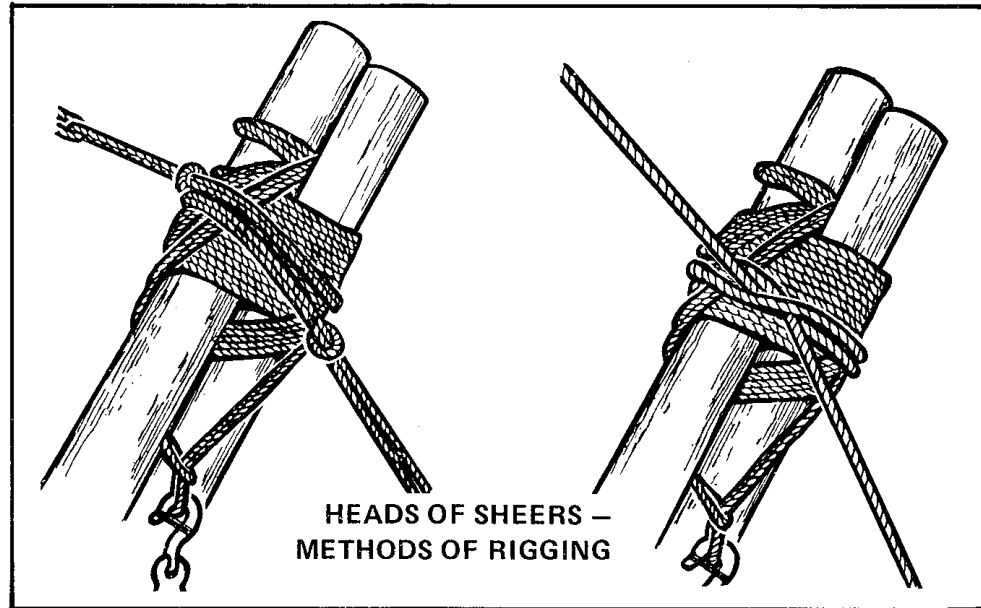

Figure 4-75 Heads of Sheers — Methods of Rigging
load (Figure 4-75). The upper block of the purchase is hooked to this strop (as shown), and the hook is securely moused.
34. **Attaching the Guys** — The **topping lift** and **martingale**, or fore and back guys, are then secured to the head of the sheers. There are several equally good ways of doing this, two of which are illustrated in Figure 4-75, and in each of which the principle is that the pull of the guys should assist in binding the sheers together, and that the purchase strop should be free to take up its natural position as the weight comes onto it. Hooks on topping lift and upper purchase block should be moused.